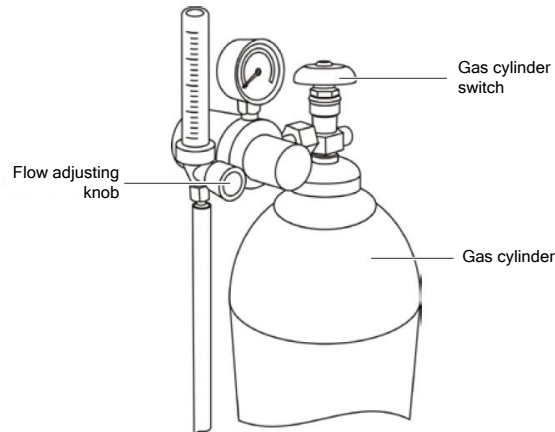

Figure 2-7 Position of the flow adjusting knob
1. Turn on the switch of the gas cylinder. (See Figure 2-7.)